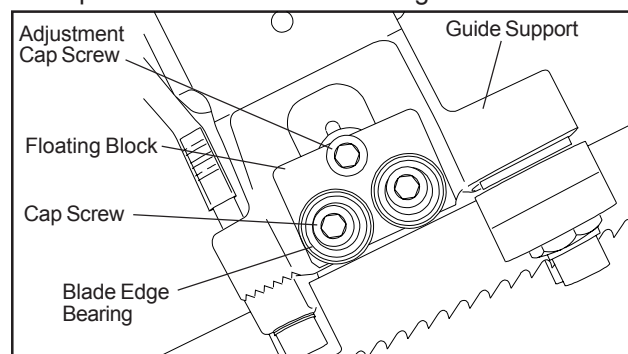

Figure 19: Blade edge bearing replacement
7. Adjust the bearings on the upper edge of the blade until they just contact the blade (see figure 19).
1. Remove the capscrew from the blade edge bearing being replaced and discard the bearing. Be careful not to lose the spring washer that separates the bearing from the floating block (see figure 19).